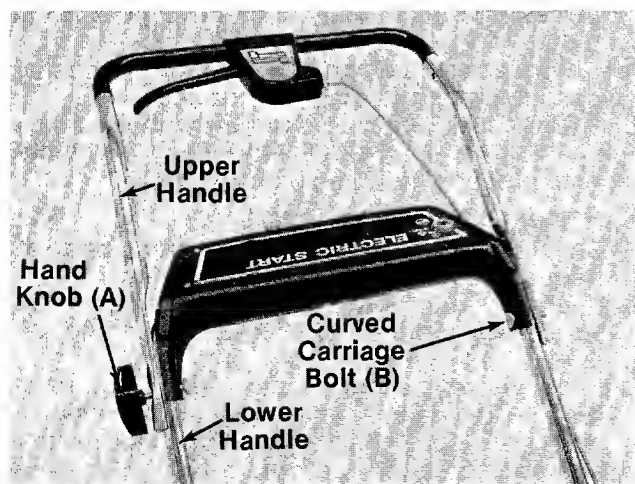

FIGURE 3.
4. There are two height positions for the handle. Place upper handle (with the clutch control attached) in position over lower handle, selecting hole for either high or low position. Hold the handle panel in place. Refer to figure 20. Secure with two curved carriage bolts (B) and hand knobs (A) as shown in figure 3. The knobs must be to the outside of the handle.